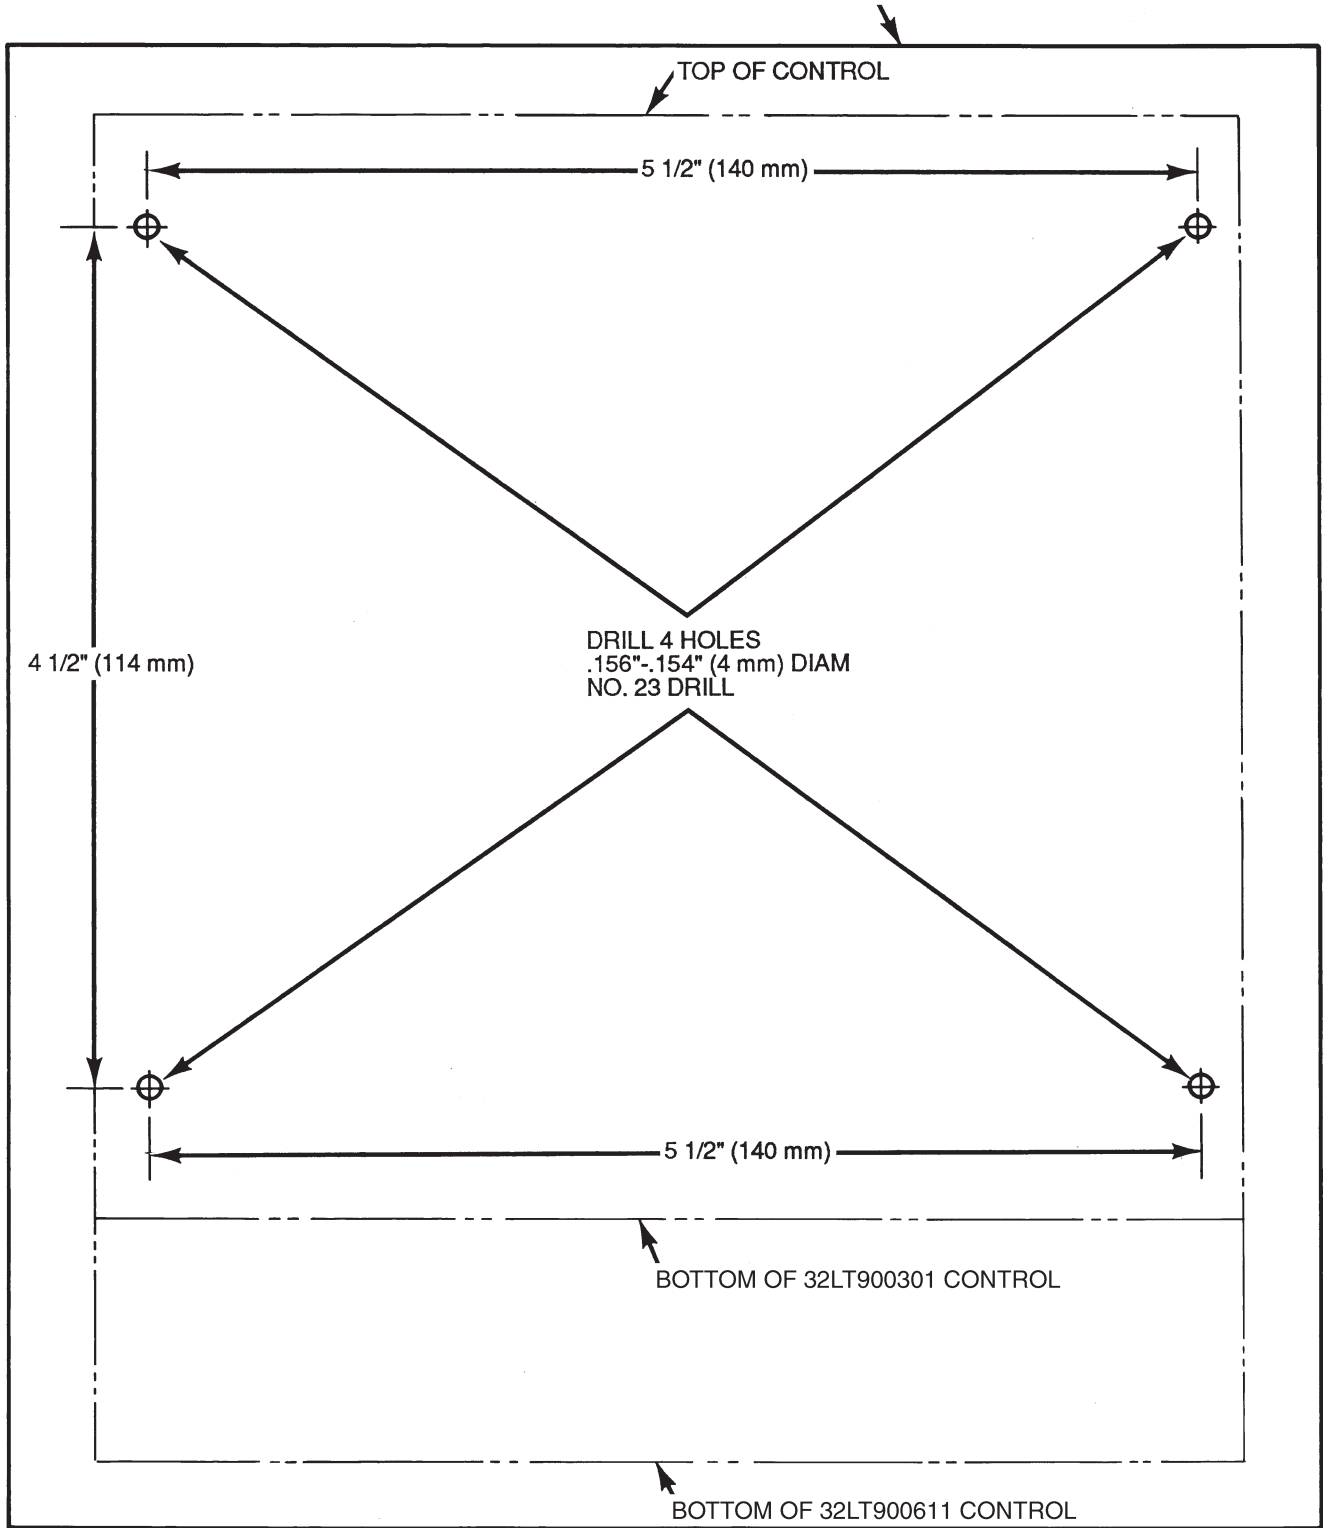

Fig. 9 - Bottom of 230V Motormaster I Controller for (301) and 460V (611)
3. Locate Motormaster I controller on outdoor partition as indicated in Fig. 3 and attach with self-drilling screws provided. A drill template is provided in Fig. 9.